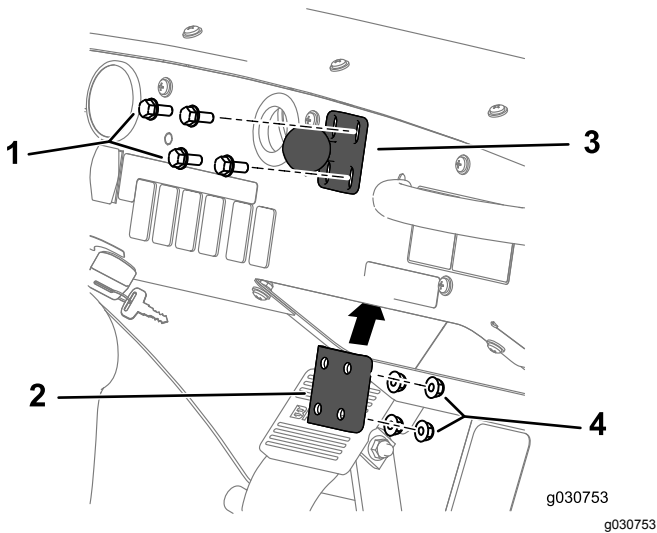

Figure 158
- Assemble the ball-pivot mount to the dash with the 4 bolts (1/4 x 1-1/2 inches), stiffener plate, and flange locknut (1/4 inch) as shown in Figure 158.